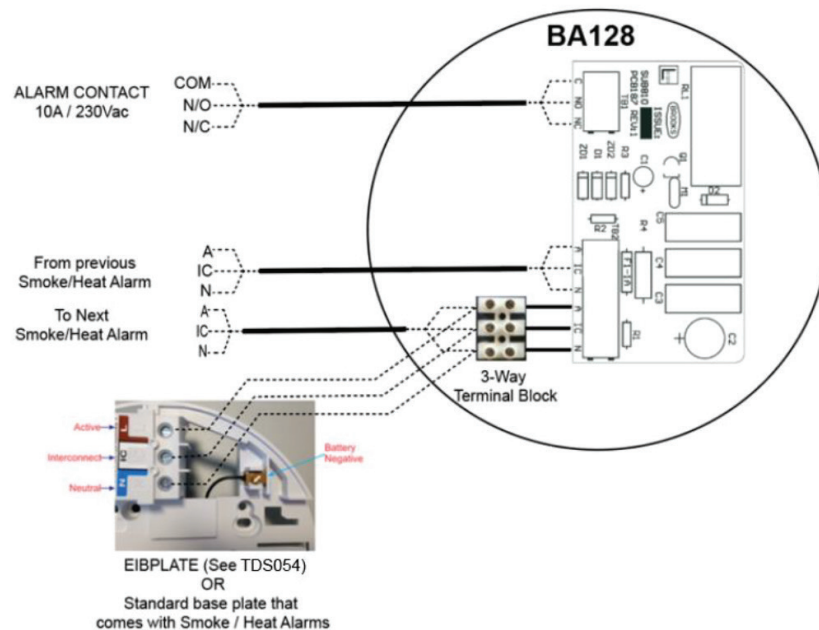

Figure 1 BA128 Wiring
4. Connect three double insulated wires between the terminals on BA128 PCB and the terminals on the Smoke / Heat Alarm base as shown in Figure 1. This "IC" wire must be connected even if it is a single alarm installation.